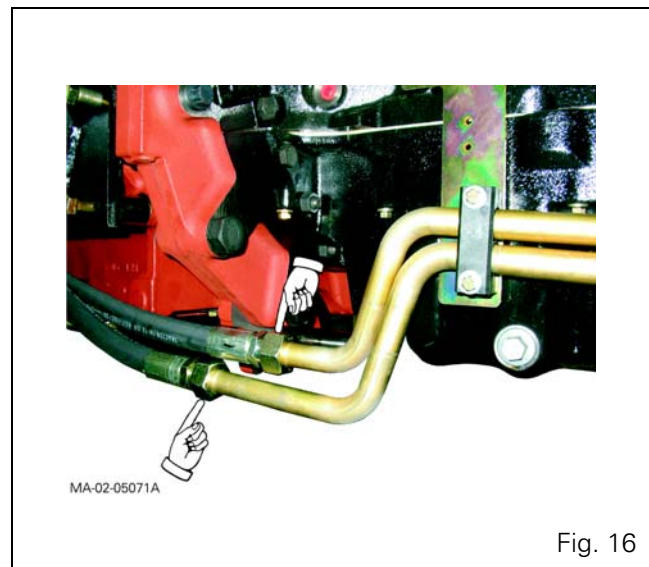

Fig. 16
- the lubricating hoses (running to and from the cooler) (Fig. 16)